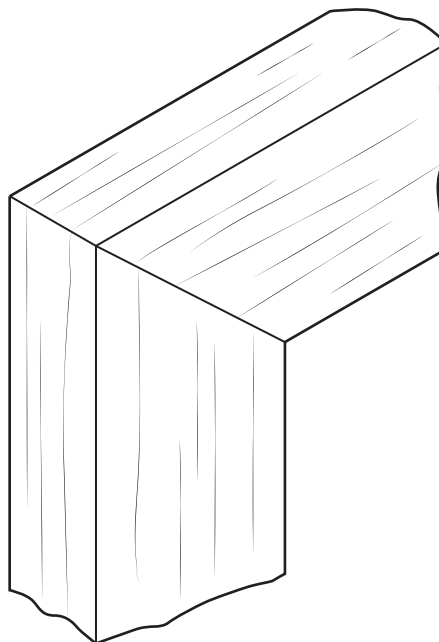

Fig. 13.6
- (ii) Fig. 13.6 shows one corner of the photo frame.
Add sketches and notes to Fig. 13.6 to show how the mitre joint could be strengthened. The method must make the joint look attractive.